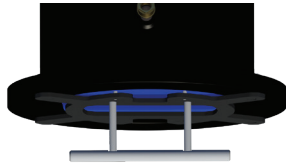

Figure 59
**5.0.18)** Once threaded studs are aligned, insert cartridge until cartridge alignment plate is flush with insertion housing flange face (see Figure 59).